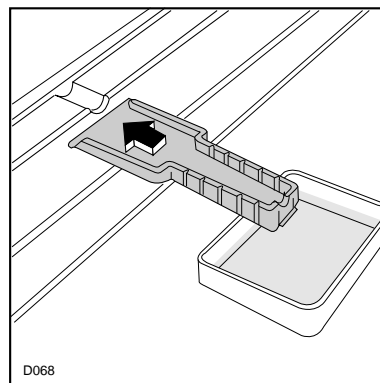

Fig. 13
- turn the thermostat dial to the «OFF» position (O) or disconnect the appliance from the mains.
- Leave the door open and insert the ice scraper under the channel in the centre of the lower part of the appliance, place a low-sided container beneath the scraper to collect the water (Fig. 13).